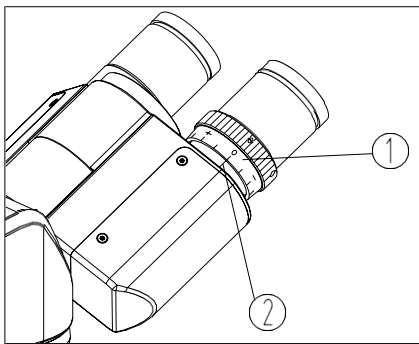

Fig.12
Observe the right eyepiece with the right eye, focus it until the image is clear. Then observe the left eyepiece with the left eye, if the image is not in focus, rotate the diopter adjustment ring① until the image is clear (See Fig.12).